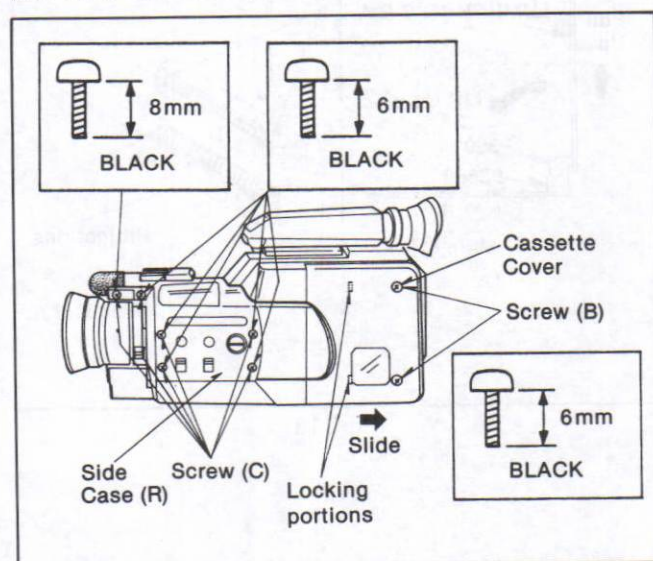

Fig.D4
- (1) Remove 6 screws (C) as shown in Fig. D4 and 4 screws (D).
- (2) Remove the side case (R).